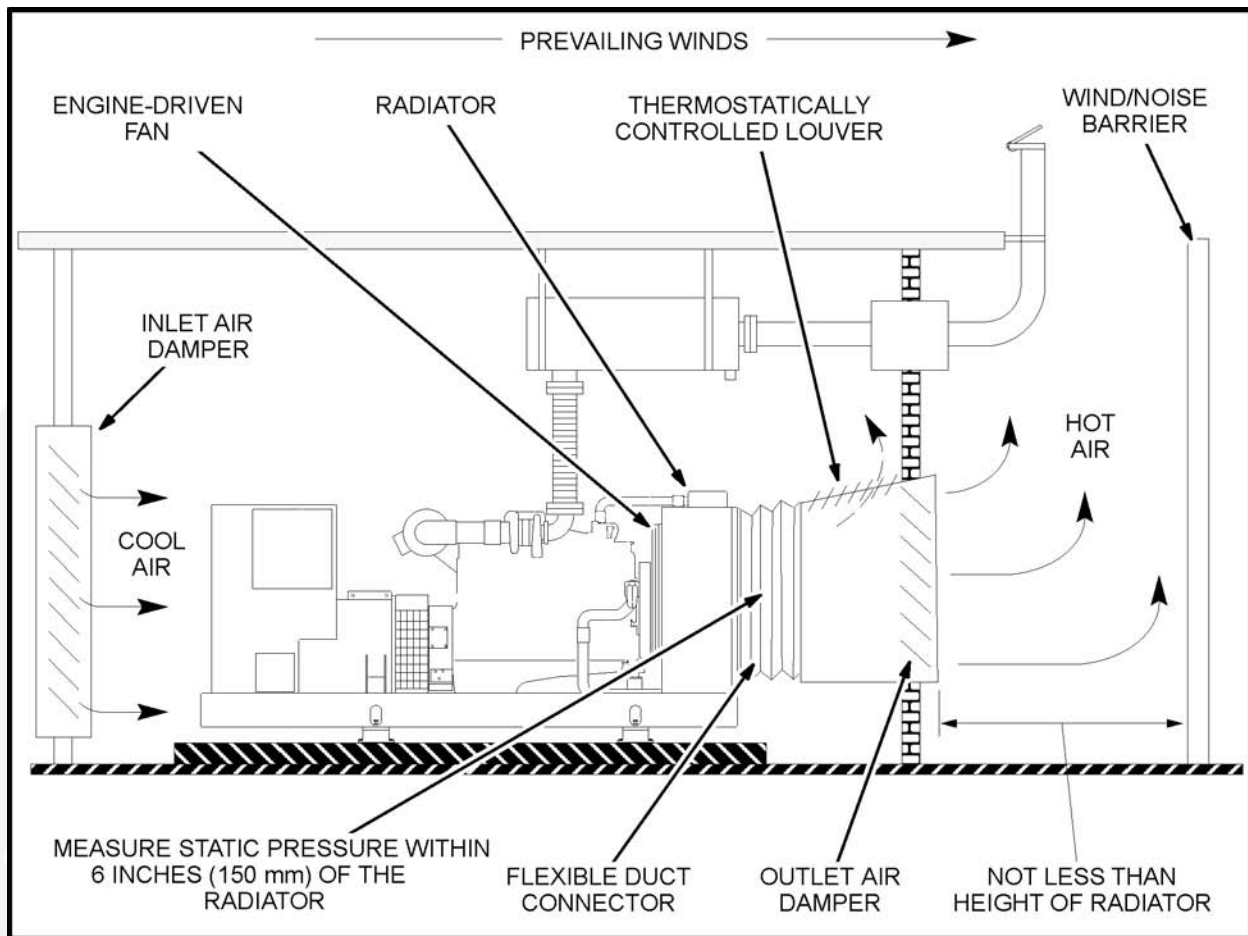
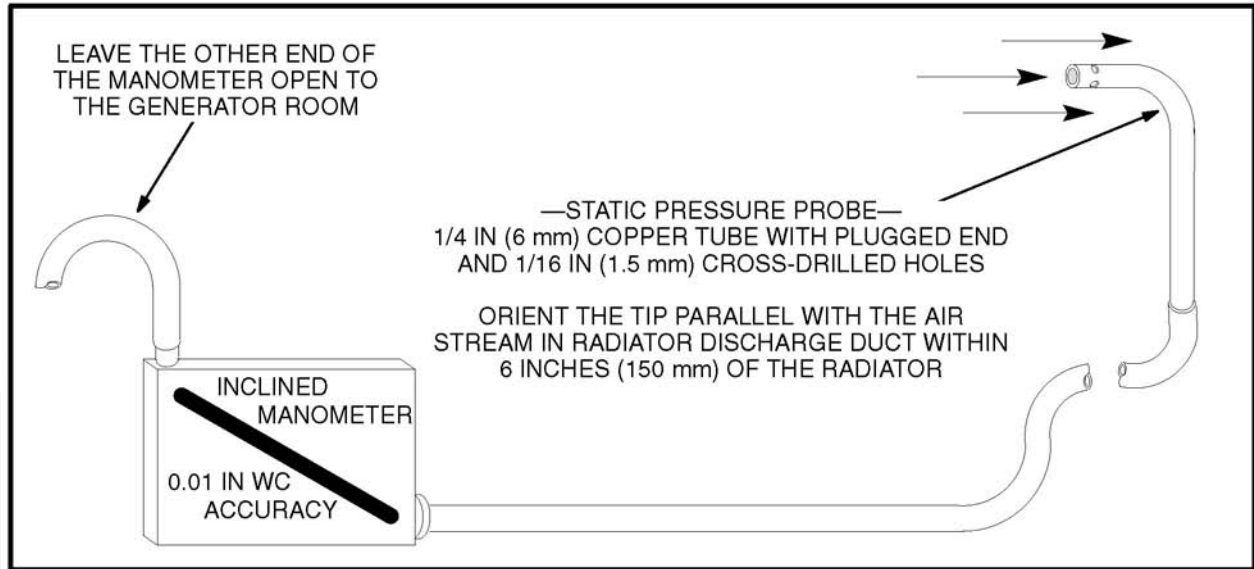
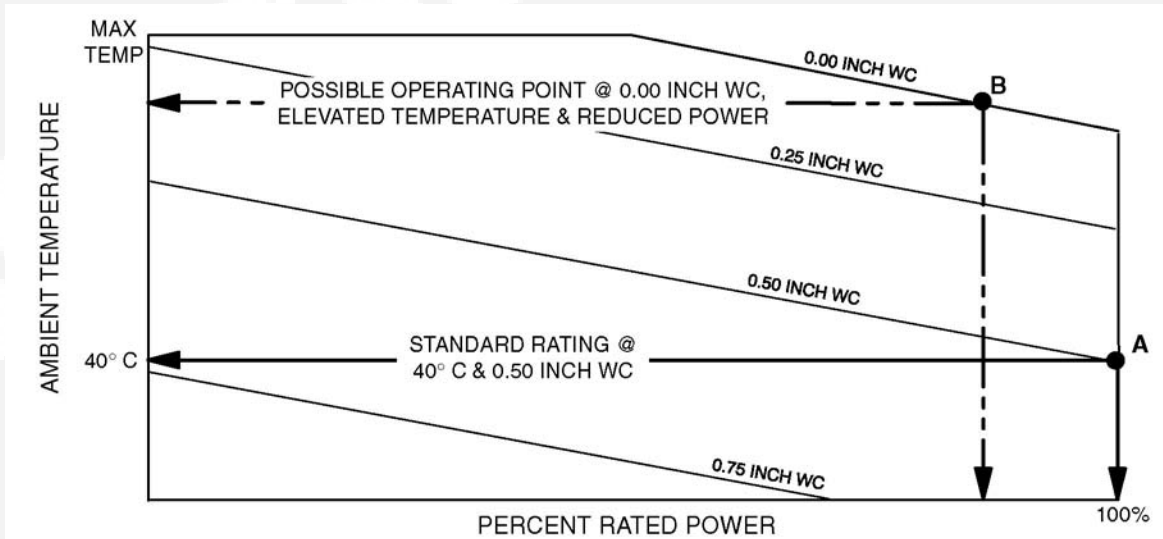

FIGURE 109. FACTORY-MOUNTED RADIATOR COOLING
FIGURE 111. RECOMMENDED INSTRUMENTATION FOR MEASURING AIR FLOW RESTRICTION
FIGURE 112. FIGURE COOLING CAPABILITY IN ELEVATED AMBIENTS
Selection of the intake and exhaust ventilation locations is critical to the proper operation of the system. Ideally, the inlet and exhaust allow the ventilating air to be pulled across the entire generator room. The effects of prevailing winds must be taken into consideration when determining exhaust air location. These effects can seriously degrade skid-mounted radiator performance. If there is any question as to the wind speed and direction, blocking walls can be used to prevent wind blowing into the engine exhaust air outlet (See Figure 109 on page 199). Care should also be taken to avoid ventilation exhausting into a recirculation region of a building that forms due to prevailing wind direction.
In this configuration (Figure 109 on page 199), the fan draws air through inlet air openings in the opposite wall and across the generator set and pushes it through the radiator which has flanges for connecting a duct to the outside of the building.
- Refer to the recommended generator set Specification Sheet for the design airflow through the radiator and allowable airflow restriction. **The allowable air flow restriction must not be exceeded.** The static pressure (air flow restriction) should be measured, as shown in Figure 109 on page 199, Figure 111 on page 204, and Figure 112 on page 204, to confirm, before the set is placed in service, that the system is not too restrictive. This is especially true when ventilating air is supplied and discharged through long ducts, restrictive grilles, screens, and louvers.
- Typically a generator set with a Skid-Mounted radiator is designed for full-power cooling capability in an ambient temperature of 40 °C while working against an external cooling air flow resistance of 0.50 inch WC (Point A, Figure 112 on page 204). External airflow resistance is that caused by ducts, screens, dampers, louvers, etc. Operation in ambient temperatures higher than the design temperature can be considered (Point B, Figure 112 on page 204, for example) if derating is acceptable and/or resistance to cooling airflow is less than the resistance under which the cooling capability was tested. (Less resistance means greater airflow through the radiator, offsetting the effect of higher air temperature on radiator cooling capability.) Close consultation with the factory is required to attain acceptable generator set cooling capability in an elevated ambient temperature.